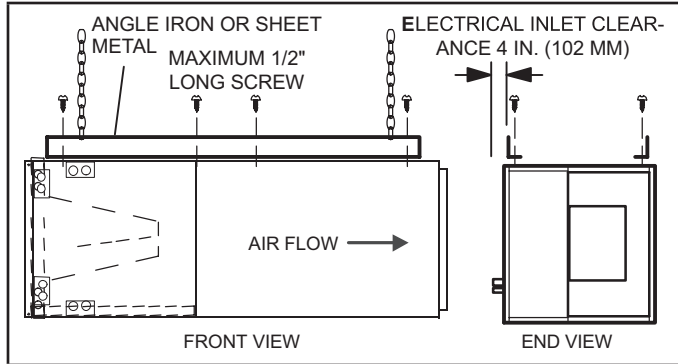

FIGURE 3. Suspending Horizontal Unit
5 - If the unit is suspended, the entire length of the cabinet must be supported. If you use a chain or strap, use a piece of angle iron or sheet metal attached to the unit (either above or below) to support the length of the cabinet. Use securing screws no longer than 1/2 inch to avoid damaging the coil or filter. See figure 3. Use sheet metal screws to connect the return and supply air plenums as required.
- 11 - If suspending the unit, it must be supported along the entire length of the cabinet. If using chain or strap, use a piece of angle iron or sheet metal attached to the unit (either above or below) so that the full length of the cabinet is supported. Use securing screws no longer than 1/2" to avoid damage to coil or filter, as illustrated in figure 3. Connect return and supply air plenums as required using sheet metal screws.